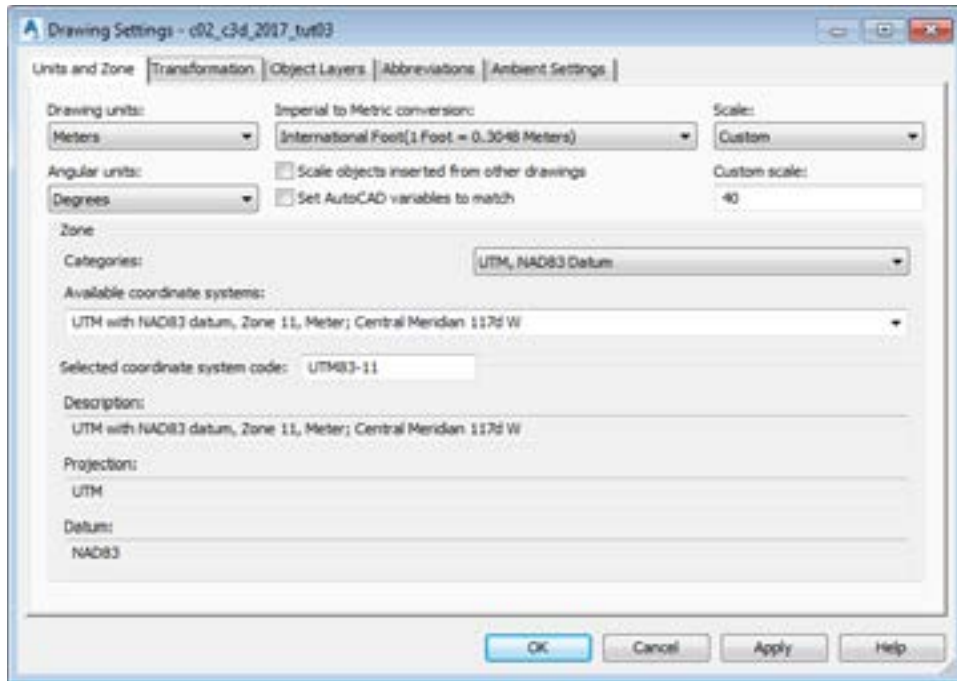

Figure 2-66 The Units and Zone tab of the Drawing Settings dialog box
5. In the **Units and Zone** tab of the **Drawing Settings** dialog box, refer to Figure 2-66, ensure the settings as follows: